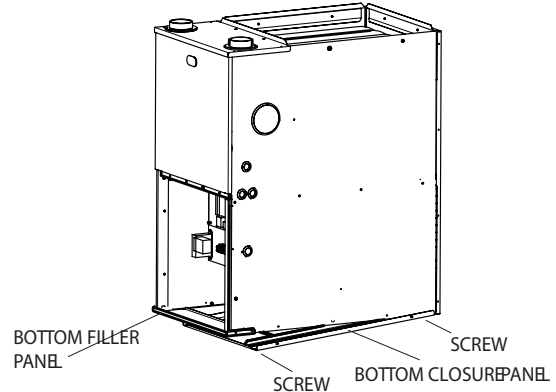

Fig. 5 - Removing Bottom Closure Panel
1. Tilt or raise furnace and remove the screw holding bottom filler panel. (See Fig. 5.)